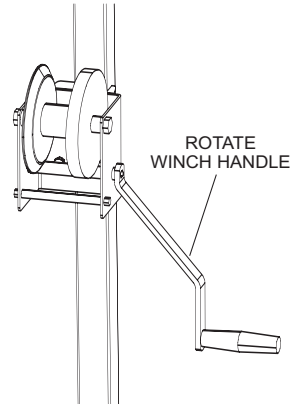

Figure 28. MBC and MBS Mast Height Adjustment
1. To adjust the height of the mast on the MBC cart or MBS stand, rotate the winch handle until the mast is at the desired height (see Figure 28).